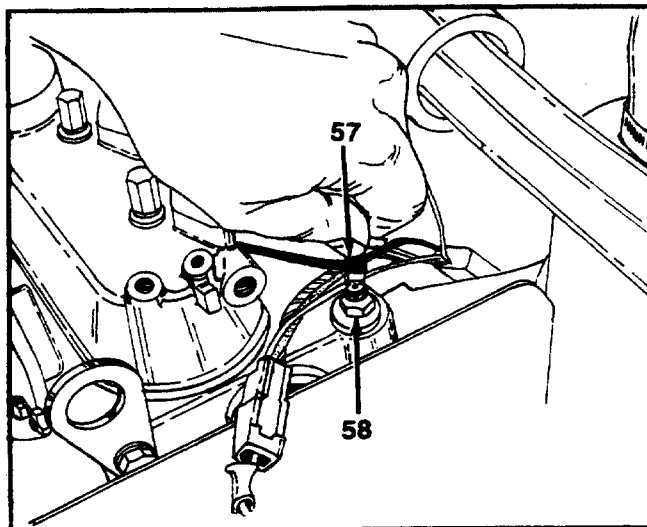

FIGURE 29.
32. Remove the spade terminal at the water temperature sending unit. See figure 29.